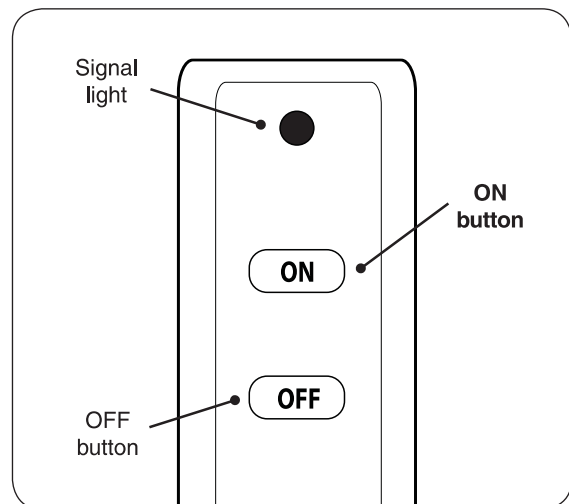

Fig. 29-2 Remote transmitter detail
3. Locate the remote transmitter and press the **ON** button (see Fig. 29-2). The ignition sequence will begin.